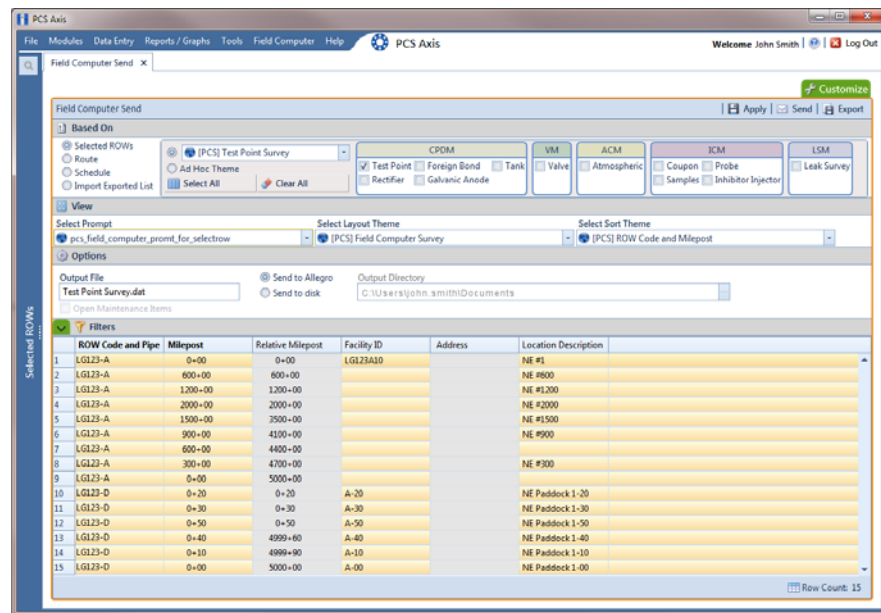

Figure 13-2. Select ROWs and Facility Type(s)
- 3 Click **Field Computer** > **Send** to open the *Field Computer Send* window (Figure 13-2, page 553).
- 6 Select a prompt, layout, and sorting theme as follows (Figure 13-2):